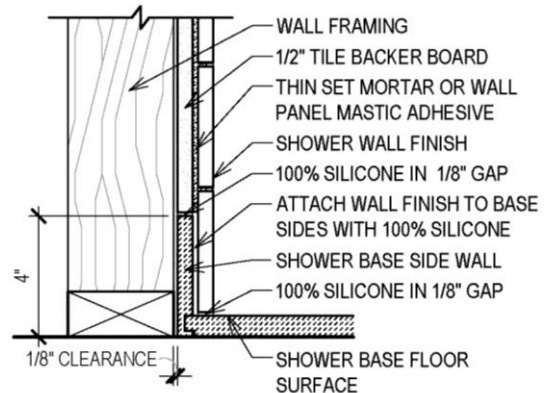

Figure 7a
- Install tile backer board a minimum of 1/8" off the top of the 4" vertical sides of the shower base. Using 100% silicone caulk, fill 1/8" gap between the base vertical side and tile backer board. See Figure 7a & 7b.
- When shower wall finishes are installed, tile or other wall finishes used should be adhered to the shower base's 4" vertical sides using 100% silicone caulk. Do NOT use tile thin set mortar or any other mastic. These materials will not adhere as well or allow for expansion. See Figure 7a.
- Install tile or other wall finishes 1/8" off the shower base floor and flush to the front of shower base. Caulk the 1/8" gap with 100% silicone caulk. See Figures 7a & 7b.